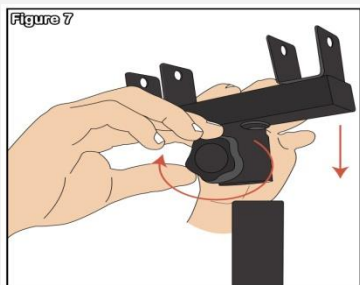

Figure 7
Step 4 – At the top of the stand, slide in the T-adaptor and tighten the knob to secure the adaptor on top (See **Figure 7**) and set aside.